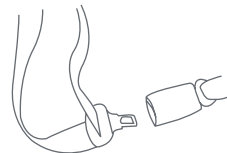

Fig. 42-2
- 9. A lap/shoulder combination seat belt with a **buckle that can slide freely** along the seat belt may require the use of a locking clip (Fig. 42-2). Check your vehicle's owner's manual to see if the vehicle manufacturer has provided an alternate manner, such as a locking retractor in which to prevent movement of the lap portion of the seat belt.